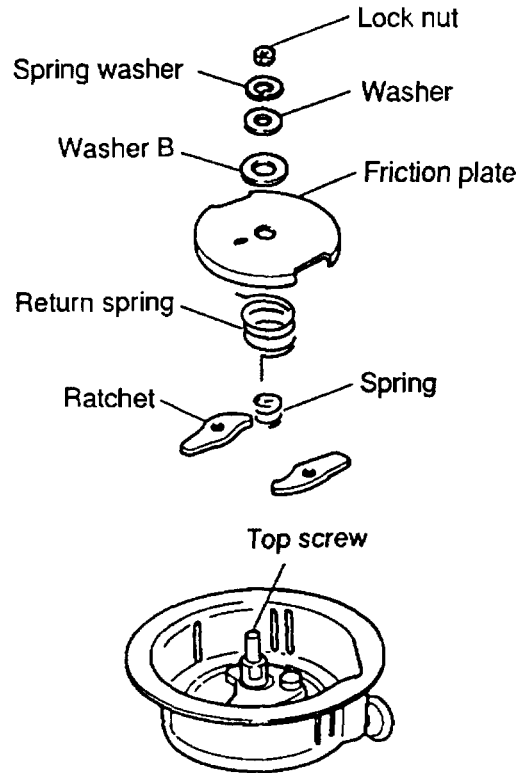

Figure 6-30 Recoil starter parts
- 3) Remove the parts as shown in Figure 6-30.